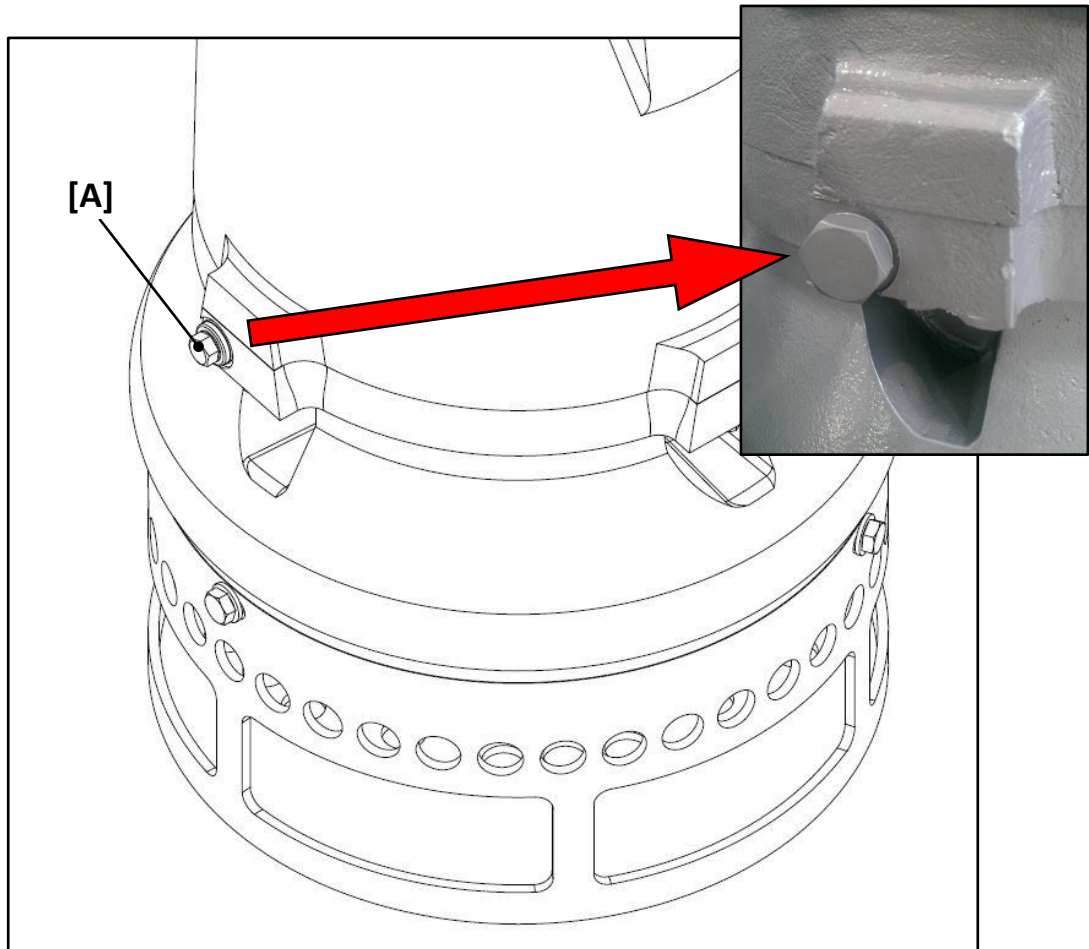

Fig. 5
- check the presence of the lubricating oil in the oil chamber by unscrewing just a little the "OIL" plug [A] to verify if some drop of oil comes out (see Fig. 5):